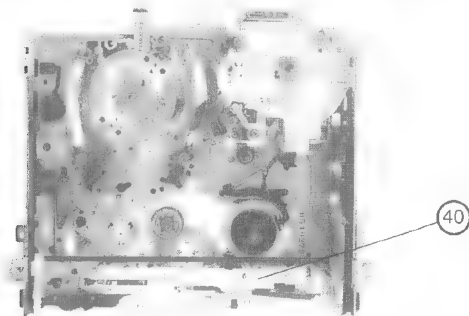

fig. 17
- Insert the end of the lever (36) in the slide rail (P8) and then slide it until the marking (M6) is facing the first tooth of the take-up gear.
7) AUSTAUSCHEN DES ZWISCHENGETRIEBES: (Abb. 17, 18 und 19)
7) REPLACEMENT OF THE INTERMEDIATE PULLEY: (fig. 17, 18 and 19)